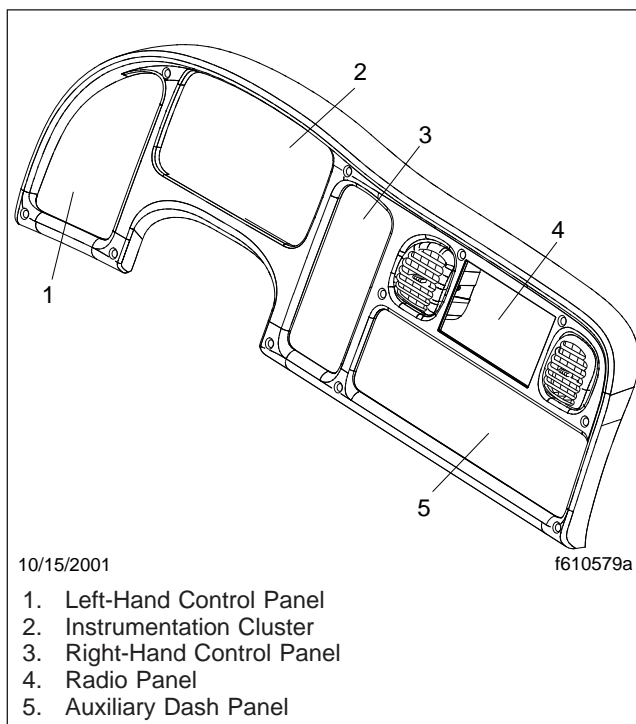

Fig. 5.3, Control Panels
The left-hand control panel (Fig. 5.3, Item 1) contains a face vent and four switches arranged in a vertical line. In the standard cab, the four switches usually consist of the headlight, panel light increase/decrease, and the cruise control on/off and set/resume switches.
The right-hand control panel (**Fig. 5.3**, Item 3) usually contains the transmission push-button shift selector (vehicles with an automatic transmission) and the trailer brake valve. On vehicles with a manual transmission, a variety of switches are installed here. If there is a dash-mounted air intake restriction indicator, it is often mounted on the right-hand panel.
The auxiliary dash panel (**Fig. 5.3**, Item 5), located below the radio panel, contains the parking brake control and trailer air supply valves, the cigarette lighter (push the knob in to heat the element; the knob will pop out when the element is hot), and a variety of switch options. The auxiliary panel may also contain an antenna connection and positive (+) and negative (-) power connections for a citizen's band (CB) radio.